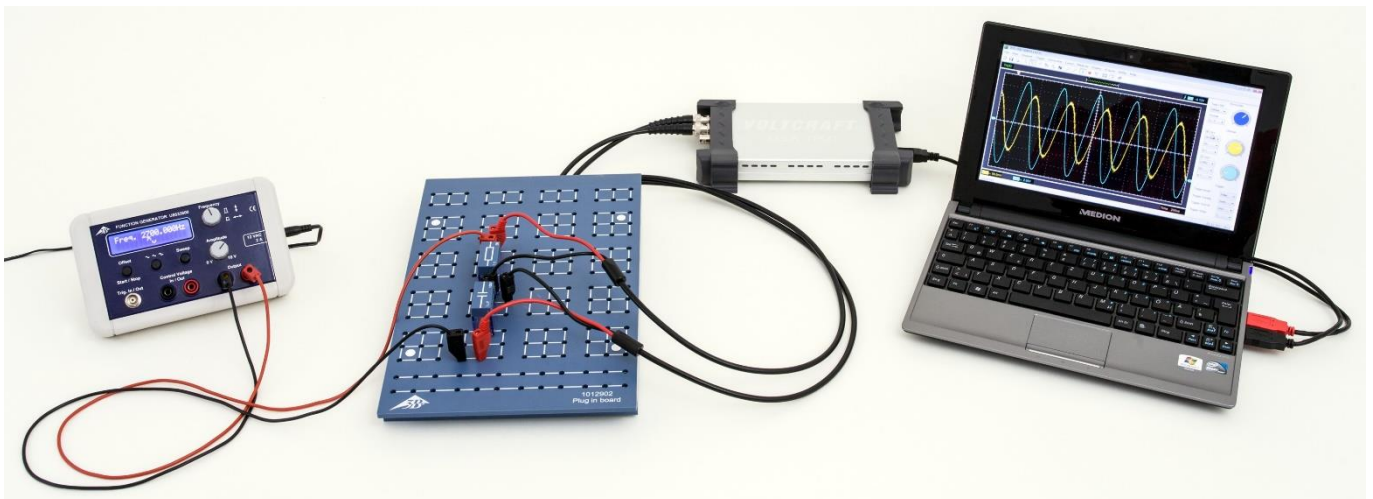

Fig. 1: Experiment set-up
- Set up the measuring equipment (Fig. 1) as shown in the circuit diagram (Fig. 2) with resistor $R=1\ \Omega$ and a capacitor $C=1\ \mu\text{F}$.